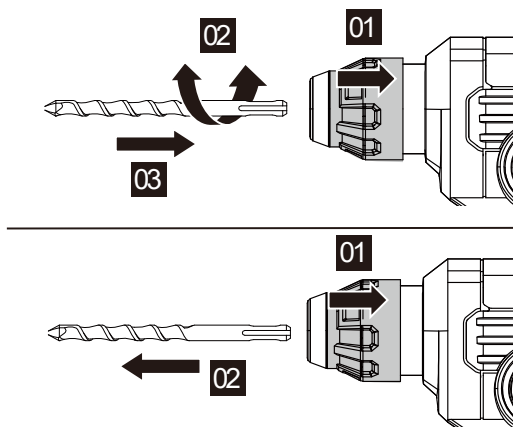

Figure 1
1. INSERTING AND REMOVING SDS DRILL BIT (SEE FIG. 1)